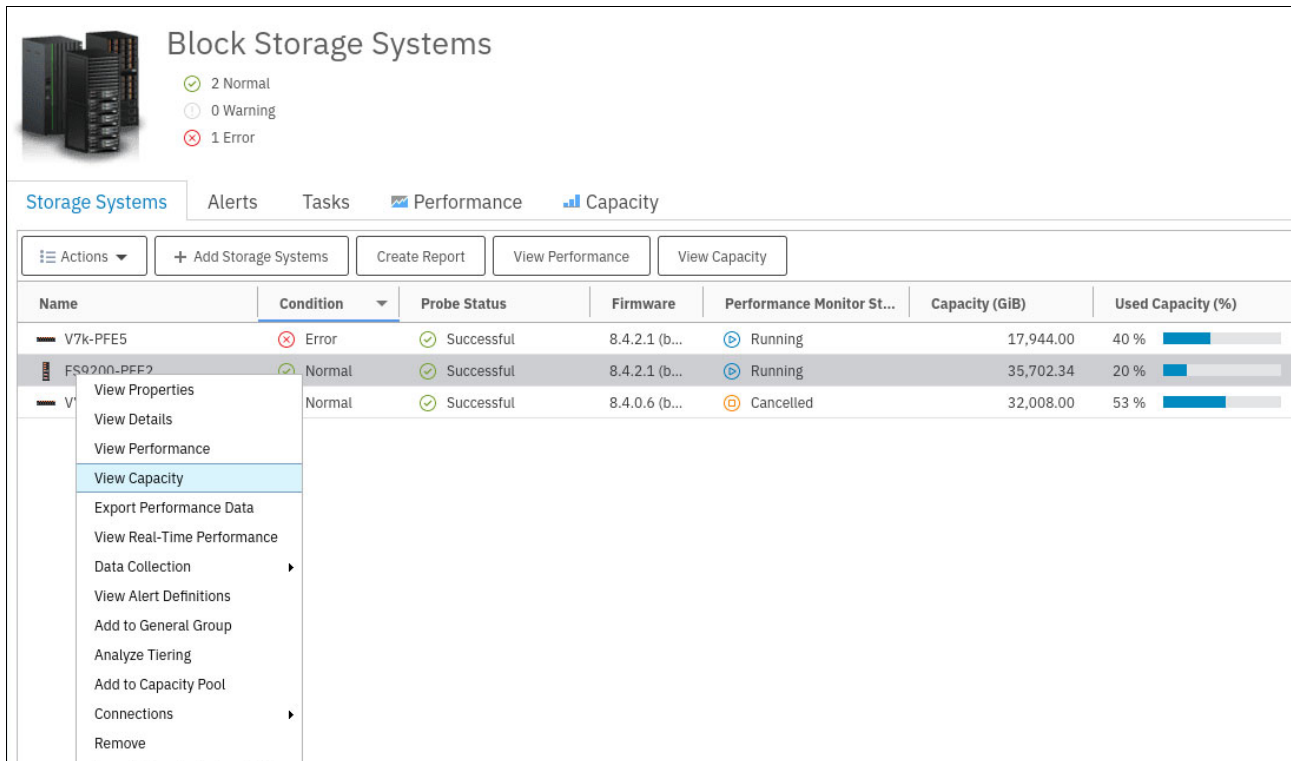
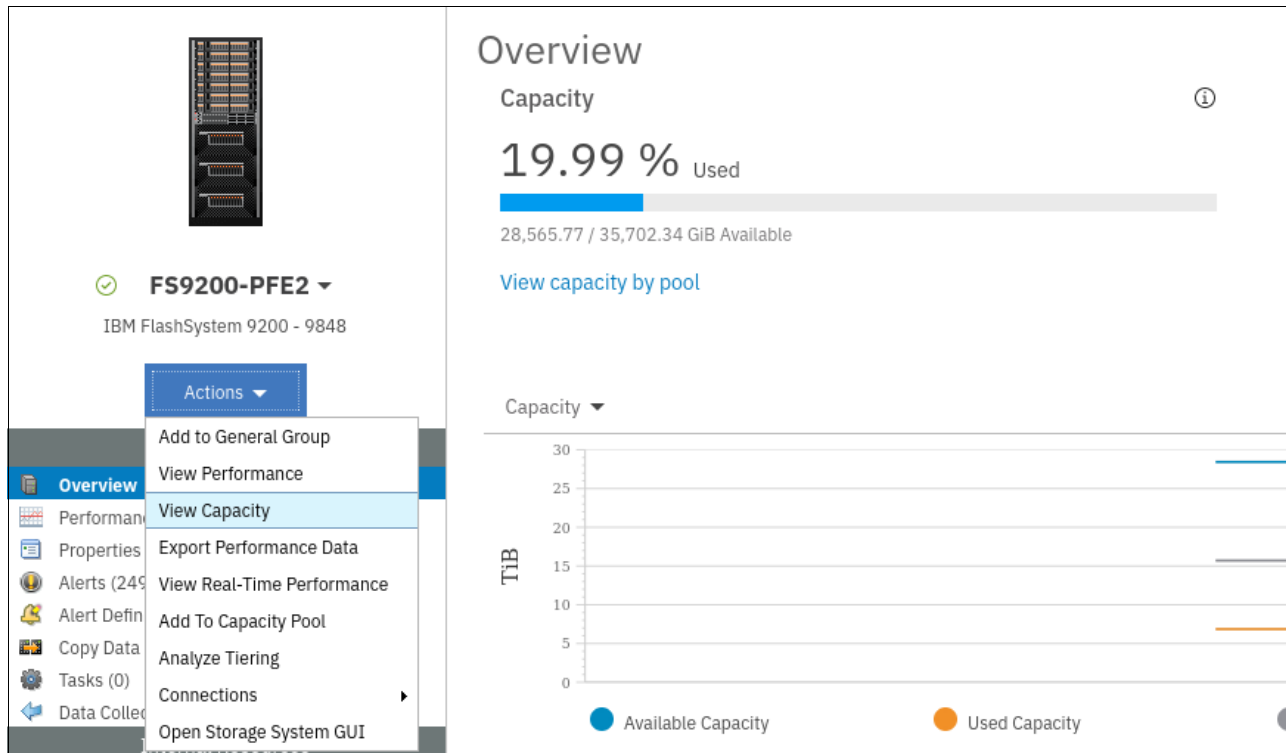

Figure 9-50 Block Storage Systems overview
Figure 9-51 Capacity overview of Storage System
1. To open the Capacity View in IBM Spectrum Control, click **Storage**, and then click **Block Storage Systems**. Right-click one or more storage systems and click **View Capacity** (see Figure 9-50).
2. You can also click **View Capacity** on the **Actions** menu (see Figure 9-51) of each device.
3. To open the Capacity view in IBM Storage Insights, use the **Resources** menu. The rest of the sequence is similar to IBM Spectrum Control with some minor cosmetic differences (see Figure 9-50 on page 596 and Figure 9-51).